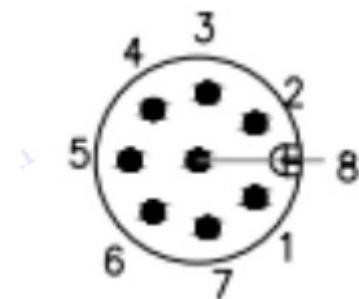

Figure 2 Schematic diagram of SMART antenna data interfaces
- Connect the SMART antenna configuration cable to the SMART antenna. Figure2 shows the SMART antenna data interfaces, and Table 2 describes the data interfaces.
HX-TS122 has two RS232 serial ports, namely, COM1 and COM2. The ports are on a 8-pin connector. For more information about the pin output of the connector, see Figure 2 and Table 2 in section 2.3.1. Connection serial ports: